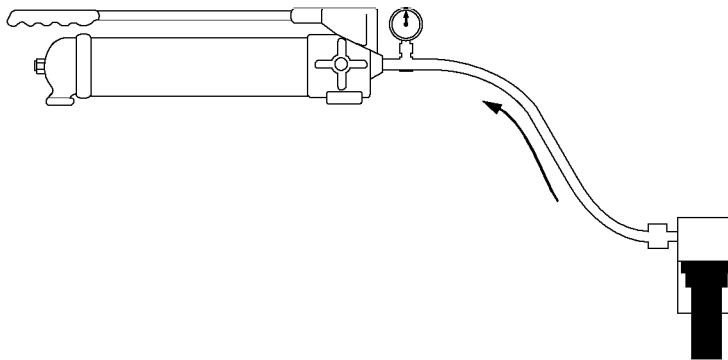

Figure 3
3. Position cylinder with the plunger end down (up if using pull cylinder). See Figure 3. 4. Operate pump to fully extend the cylinder (retract if using pull cylinder).